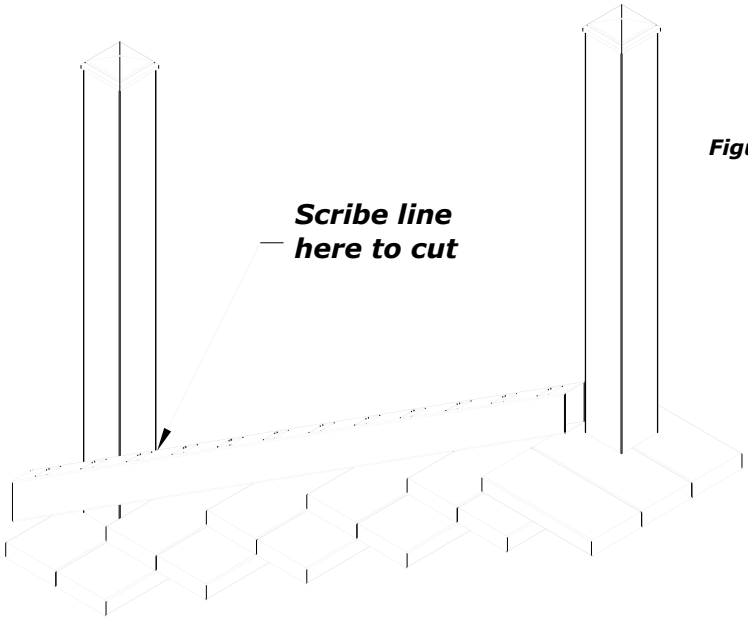

Figure 1
Step 1: Place the bottom rail along the step treads with the end flush with top step post. If it is necessary to cut the bottom rail, mark and cut from the end at the bottom of the steps. Cutting the bottom rail from both ends may be necessary to prevent cutting through a baluster hole. Cut the bottom rail at angle. (See Figure 1)